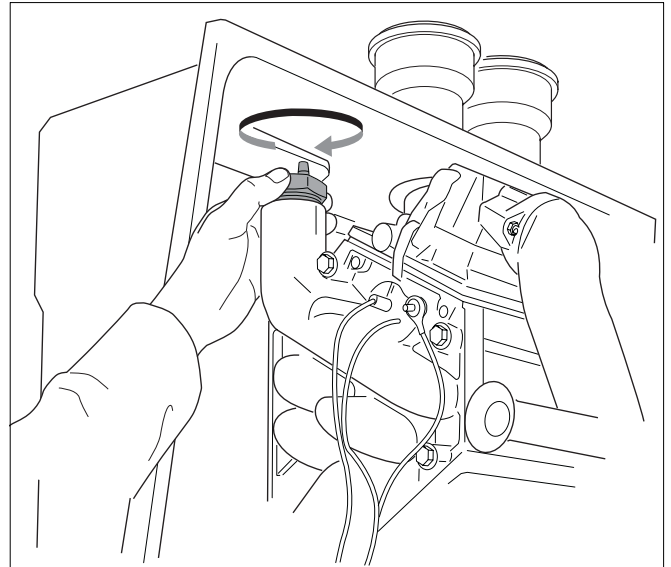

Fig. 102 Removing the float cap
- Remove the float cap (see fig. 102).